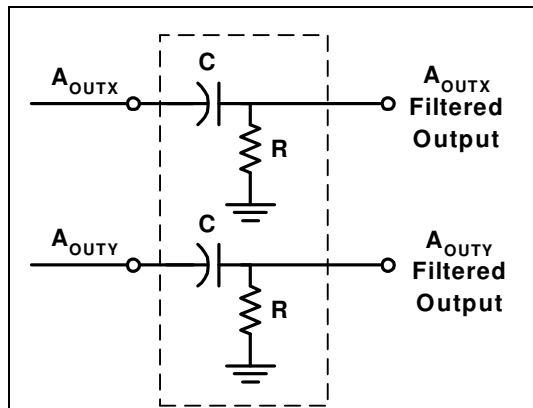

Figure 3: High Pass Filter
**AC Coupling:** For applications where only dynamic accelerations (vibration) are to be measured, it is recommended to ac couple the accelerometer output as shown in Figure 3. The advantage of ac coupling is that zero g offset variations from part to part and zero g offset change over temperature can be eliminated. Figure 3 is a HFP (high pass filter) with a –3dB breakpoint given by the equation:  $f = \frac{1}{2\pi RC}$ . In many applications it may be